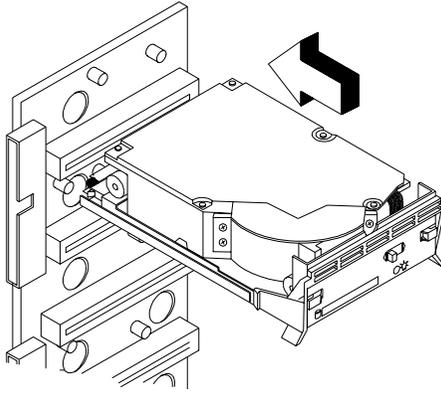

Figure B-10 *Installing the Hot-swap Drive Tray*
4. Install the drive tray into the backplane board. See Figure B-10 on the following page.